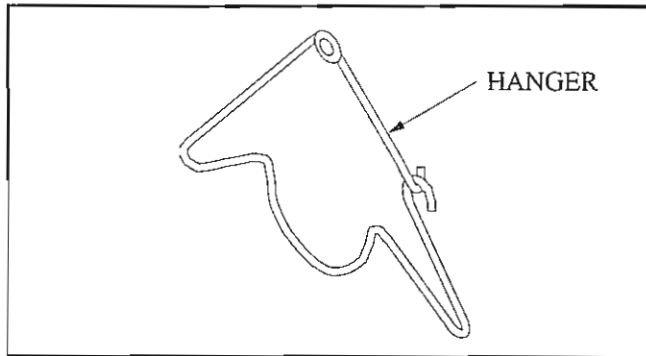
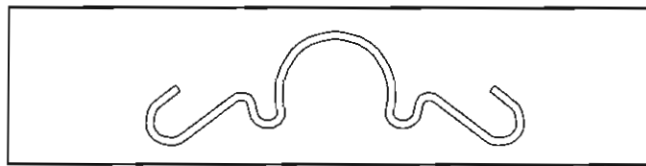

Figure 1-6
Figure 1-7
- Each heater comes equipped with the necessary hangers (Figure 1-6) for hanging. The DTHS20 requires three hangers, the DTHS30 four hangers, the DTHS40 five hangers, the DTHS50 six hangers, and the DTHS60 seven hangers. Each heater also comes with one reflector center support (Figure 1-7) for each 10-ft section of reflector and one DTHS Installation Kit.